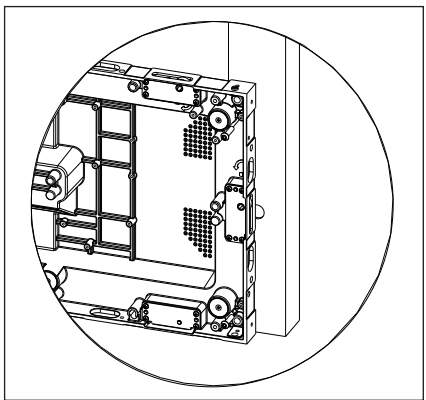

Figure 19: Tighten Jacking Hardware
7. Tighten the jacking hardware next to the existing panel until the panel is firmly seated against the tube. Refer to **Figure 19**. Tighten the remaining jacking hardware until it contacts the tubes.